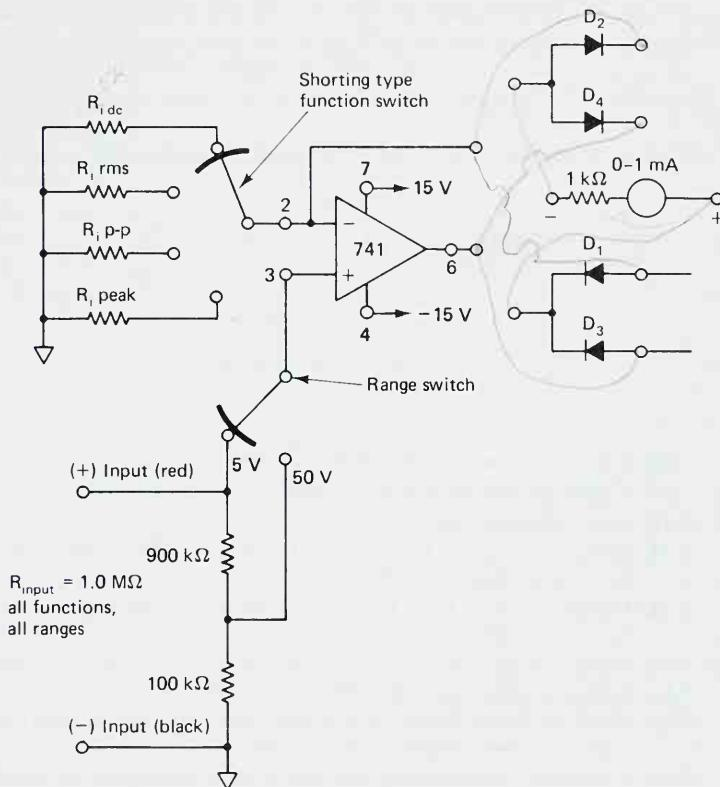

FIGURE P5-3
- 5-3.** In Fig. P5-3 complete the schematic wiring between op amp, diodes, and milliammeter. The current through the meter must be steered from right to left.
- 5-4.** Calculate a value for $R_{i\text{dc}}$ in Fig. P5-3 so that the meter reads full scale when $E_i = 5 \text{ V}$ and the range switch is on the 5-V position.
- 5-5.** Consider that the range switch is in the 5-V position in Fig. P5-3. Calculate values for the following resistors to give a full-scale meter deflection of 5 V: (a) $R_{i\text{rms}}$ for $E_i = 5 \text{ V rms}$; (b) $R_{i\text{p-p}}$ for $E_i = 5 \text{ V p-p}$; (c) $R_{i\text{peak}}$ for $E_i = 5 \text{ V peak}$.